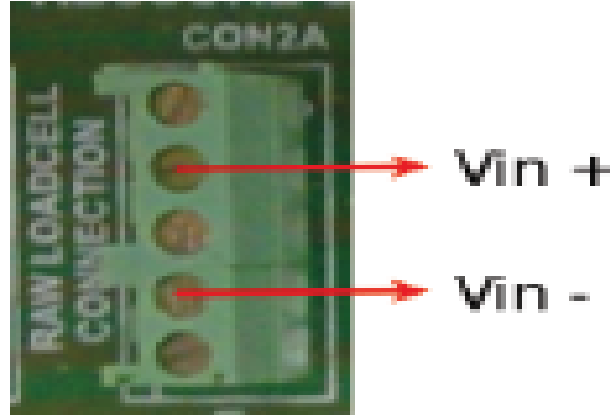
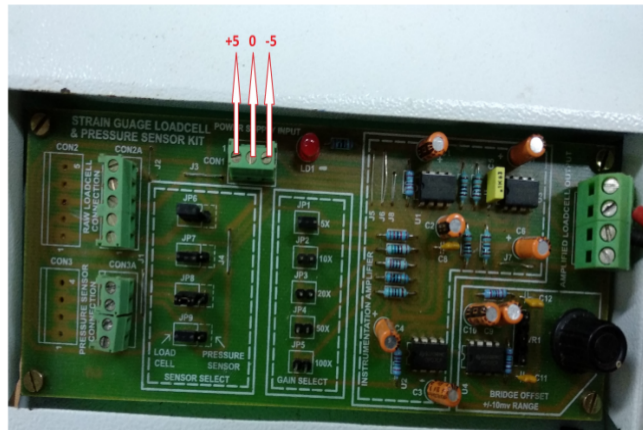

Figure 4: Raw load cell output to the input of instrumentation amplifier
Figure 5: Power supply connections to the weighing machine
- Connect power supply ( $\pm 5V$  and ground for bridge) to the weighing machine as shown in figure 5. Connect raw load cell output to the input of your 3 op-amp instrumentation amplifier. Refer to figure 4.
- Connect raw output (un-amplified differential output) of load cell to the designed instrumentation amplifier. Refer to figure 4.